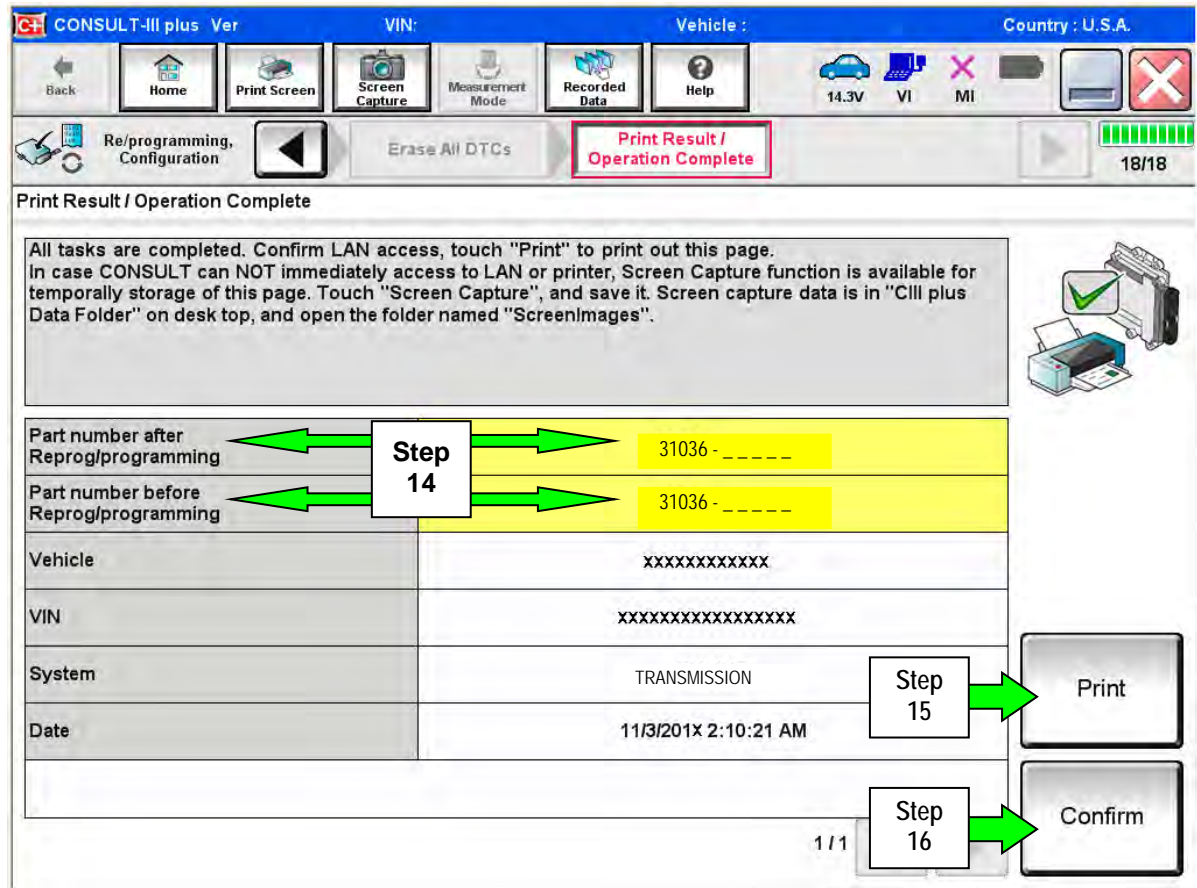

Figure 7B
13. When the entire reprogramming process is complete, the screen in Figure 7B will display.
15. Print a copy of this screen (Figure 7B) and attach it to the repair order for warranty documentation.